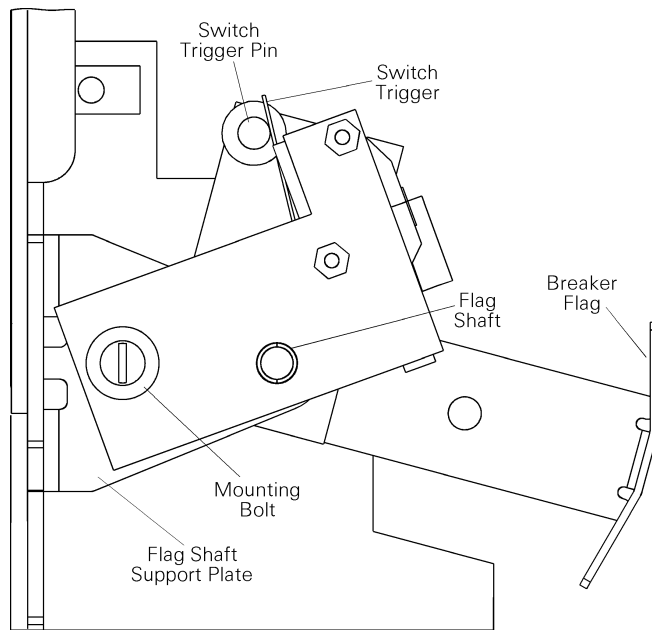

Figure 61. Remote charge-indication switch side view.
- b. Rotate the switch until the switch trigger is fully depressed against the trigger pin, as illustrated in Figure 61.